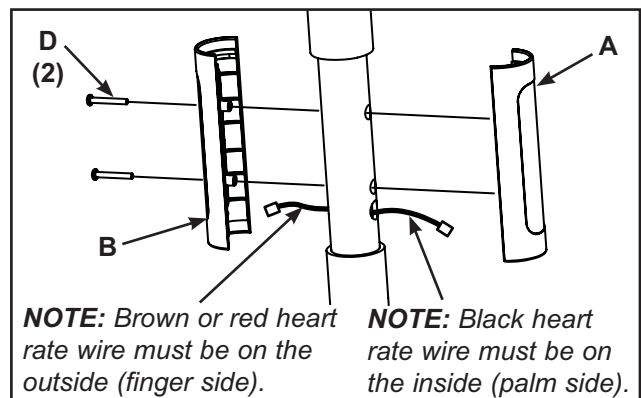

Figure 3
A. Using a Phillips screwdriver, remove the two screws securing the grips in place. See Figure 3.
B. Disconnect the heart rate wire from each grip. See Figure 3.